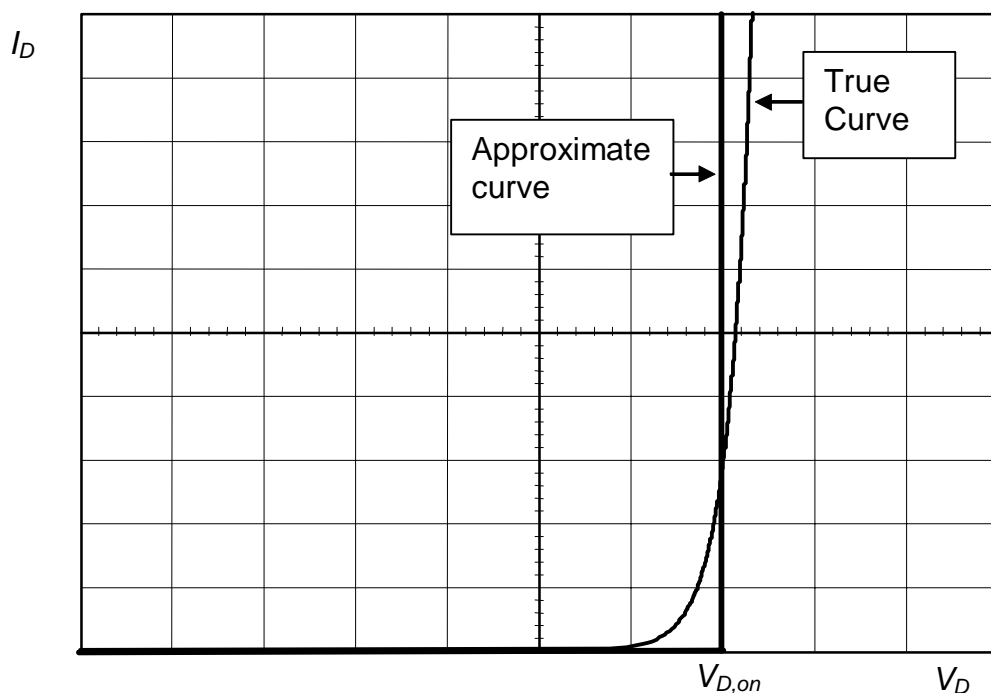

Figure 5
- The effect of this approximation is shown in fig.5, which gives current versus voltage plots for eqs.(13) and (14).